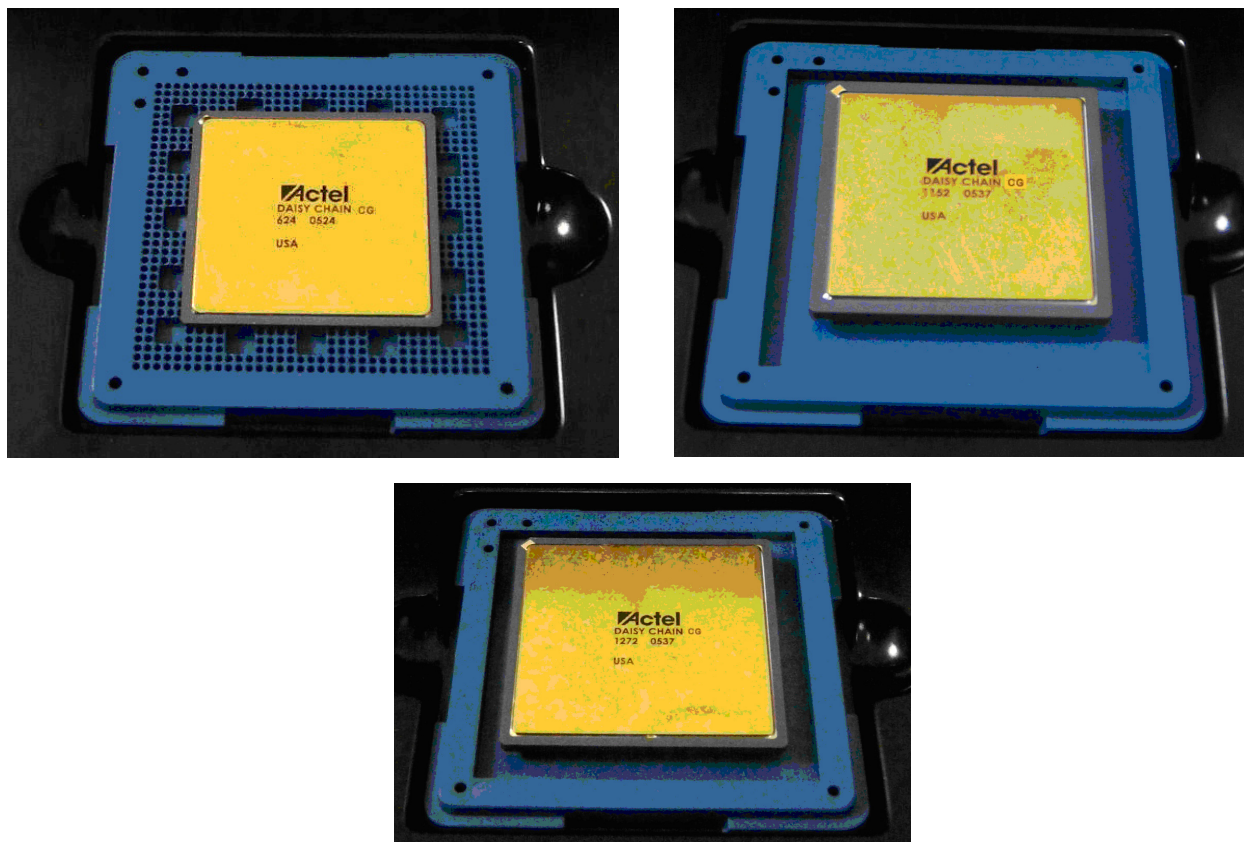

Figure 10 • From Left to Right: CG624, CG1152, and CG1272 in their Respective Tray Carriers
1. Microsemi ships each CCGA packaged part in a tray carrier with a column protection feature. The tray carrier is then stored in a black ESD-protective jewel box and sealed in a dry pack. See Figure 10 on page 6. The user must be aware that solder columns are very soft and easily bent.